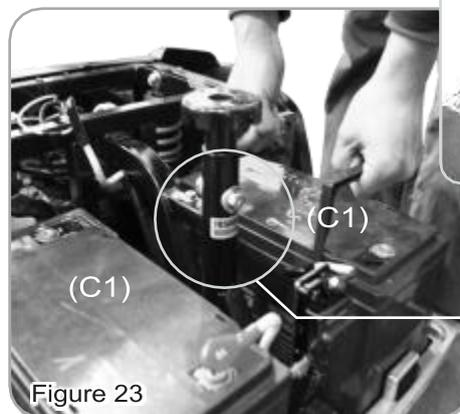

Figure 23
4. Remove two batteries (C1) (Figure 23).